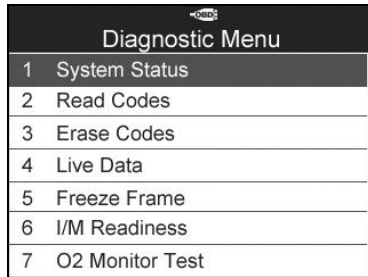

Figure 6.3
gnostic Menu, use the **UP/DOWN** scroll button to select **Read Codes** and press the **Y** button. (Figure 6.3)
- 1) Use the **UP/DOWN** scroll buttons to select **Erase Codes** from **Diagnostics Menu** and press the **Y** button. (Figure 6.3)
- 1) To view live data, use the **UP/DOWN** scroll button to select **Live Data** from **Diagnostic Menu** and press the **Y** button. (Figure 6.3)
- 1) To view freeze frame data, use the **UP/DOWN** scroll button to select **Freeze Frame** from **Diagnostic Menu** and press the **Y** button. (Figure 6.3)
- 1) Use the **UP/DOWN** scroll button to select **I/M Readiness** from **Diagnostic Menu** and press the **Y** button. (Figure 6.3)
- 1) Use the **UP/DOWN** scroll button to select **O2 Monitor Test** from **Diagnostic Menu** and press the **Y** button. (Figure 6.3)